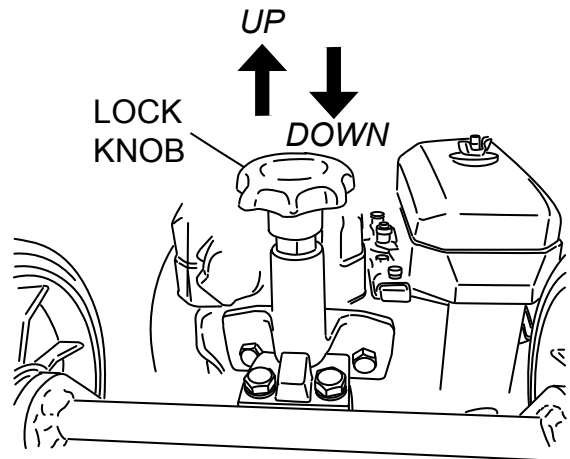

Figure 16. Locking Axle
4. Pull lock knob up and down until the axle is held securely (Figure 16).